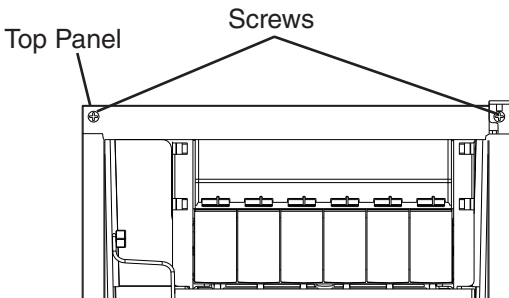

**Fig. 3**
- 5) While maintaining a hold on the door, remove the hinge stop pin from hinge (B). Pull out the bottom of the door slightly and gently remove the door from hinge (A). See Fig. 3. If you are leaving the door right-hinged, skip to step 7. If you would like to reverse the door swing, proceed to step 6.